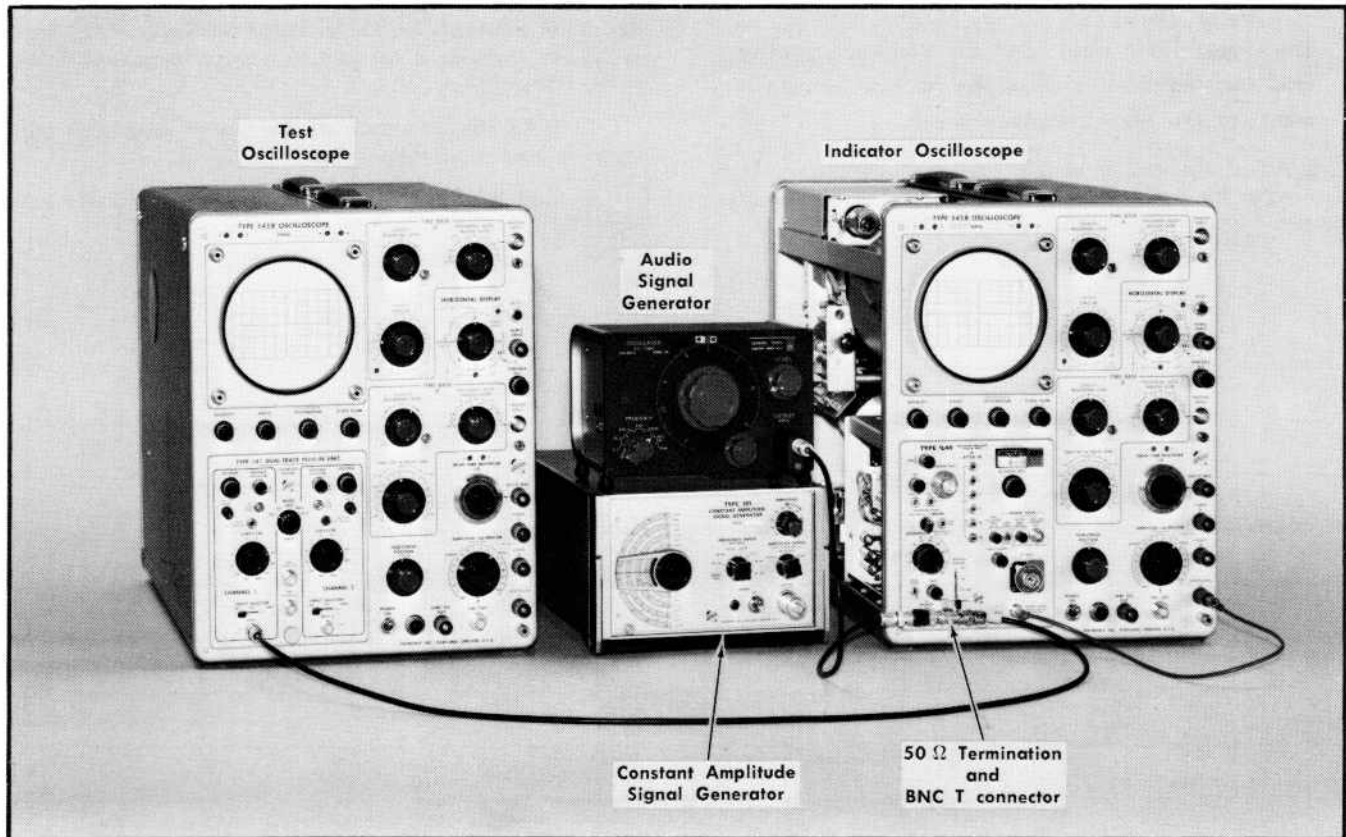

Fig. 5-19. Equipment setup to check video bandpass.
- Set up the equipment as shown in Fig. 5-19.